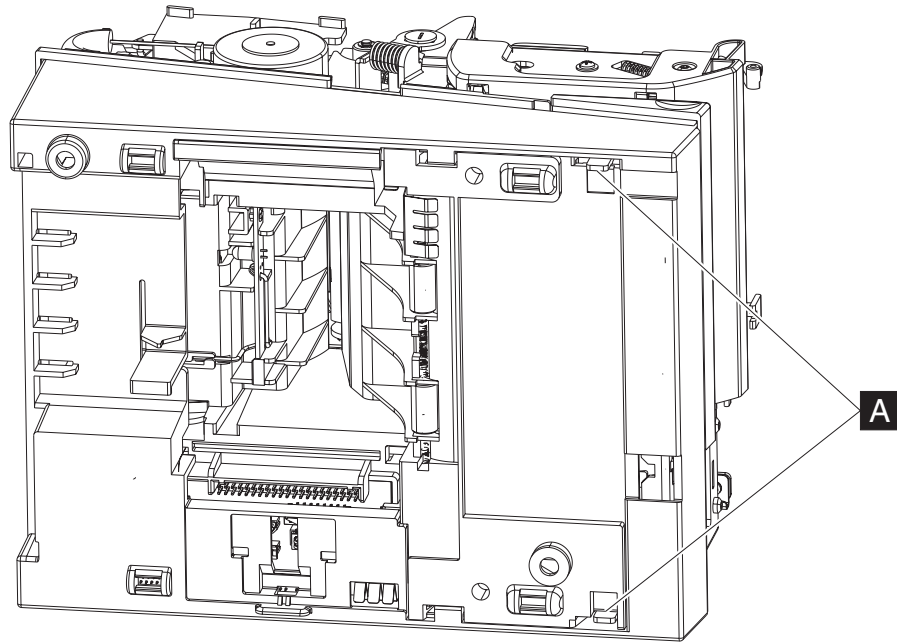

Figure 32. Removing the skirt cover
3. Turn the printer on one side. Insert the skirt cover, installing the rear of the cover first (see Figure 32).
6. Turn the printer on one side. Press outward on the tabs (see Figure 32) on the bottom skirt cover and lift to remove.